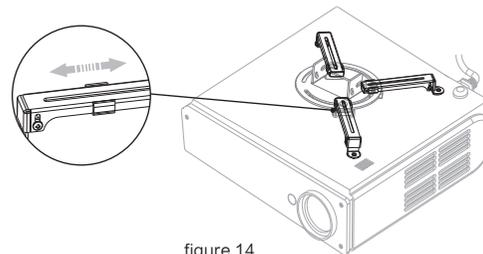

figure 14
2. If there are 3 holes, the installation arms (4-3) need to be taken apart from installation bracket firstly. Connect 3 installation arms (4-3) to the projector, and then connect the installation arms (4-3) to the installation base (4-6). However, the installation base needs to be the center of projector. Figure 14.